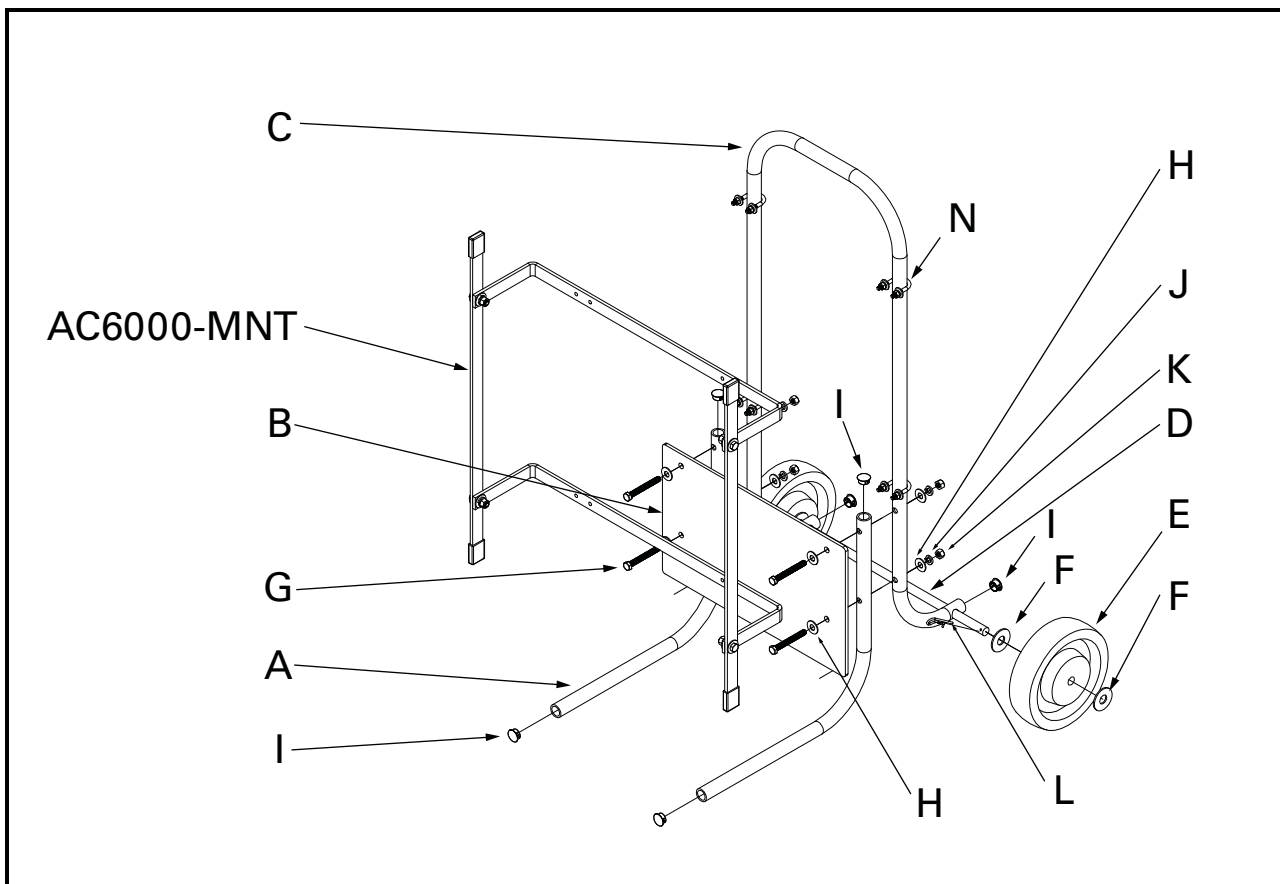

FIGURE 3. AC6000-CART Overall Assembly.
- Position the AC6000-MNT as shown in Figs. 3 and 9. The bottom bar should be approximately 50 mm (2") above the accessory plate.